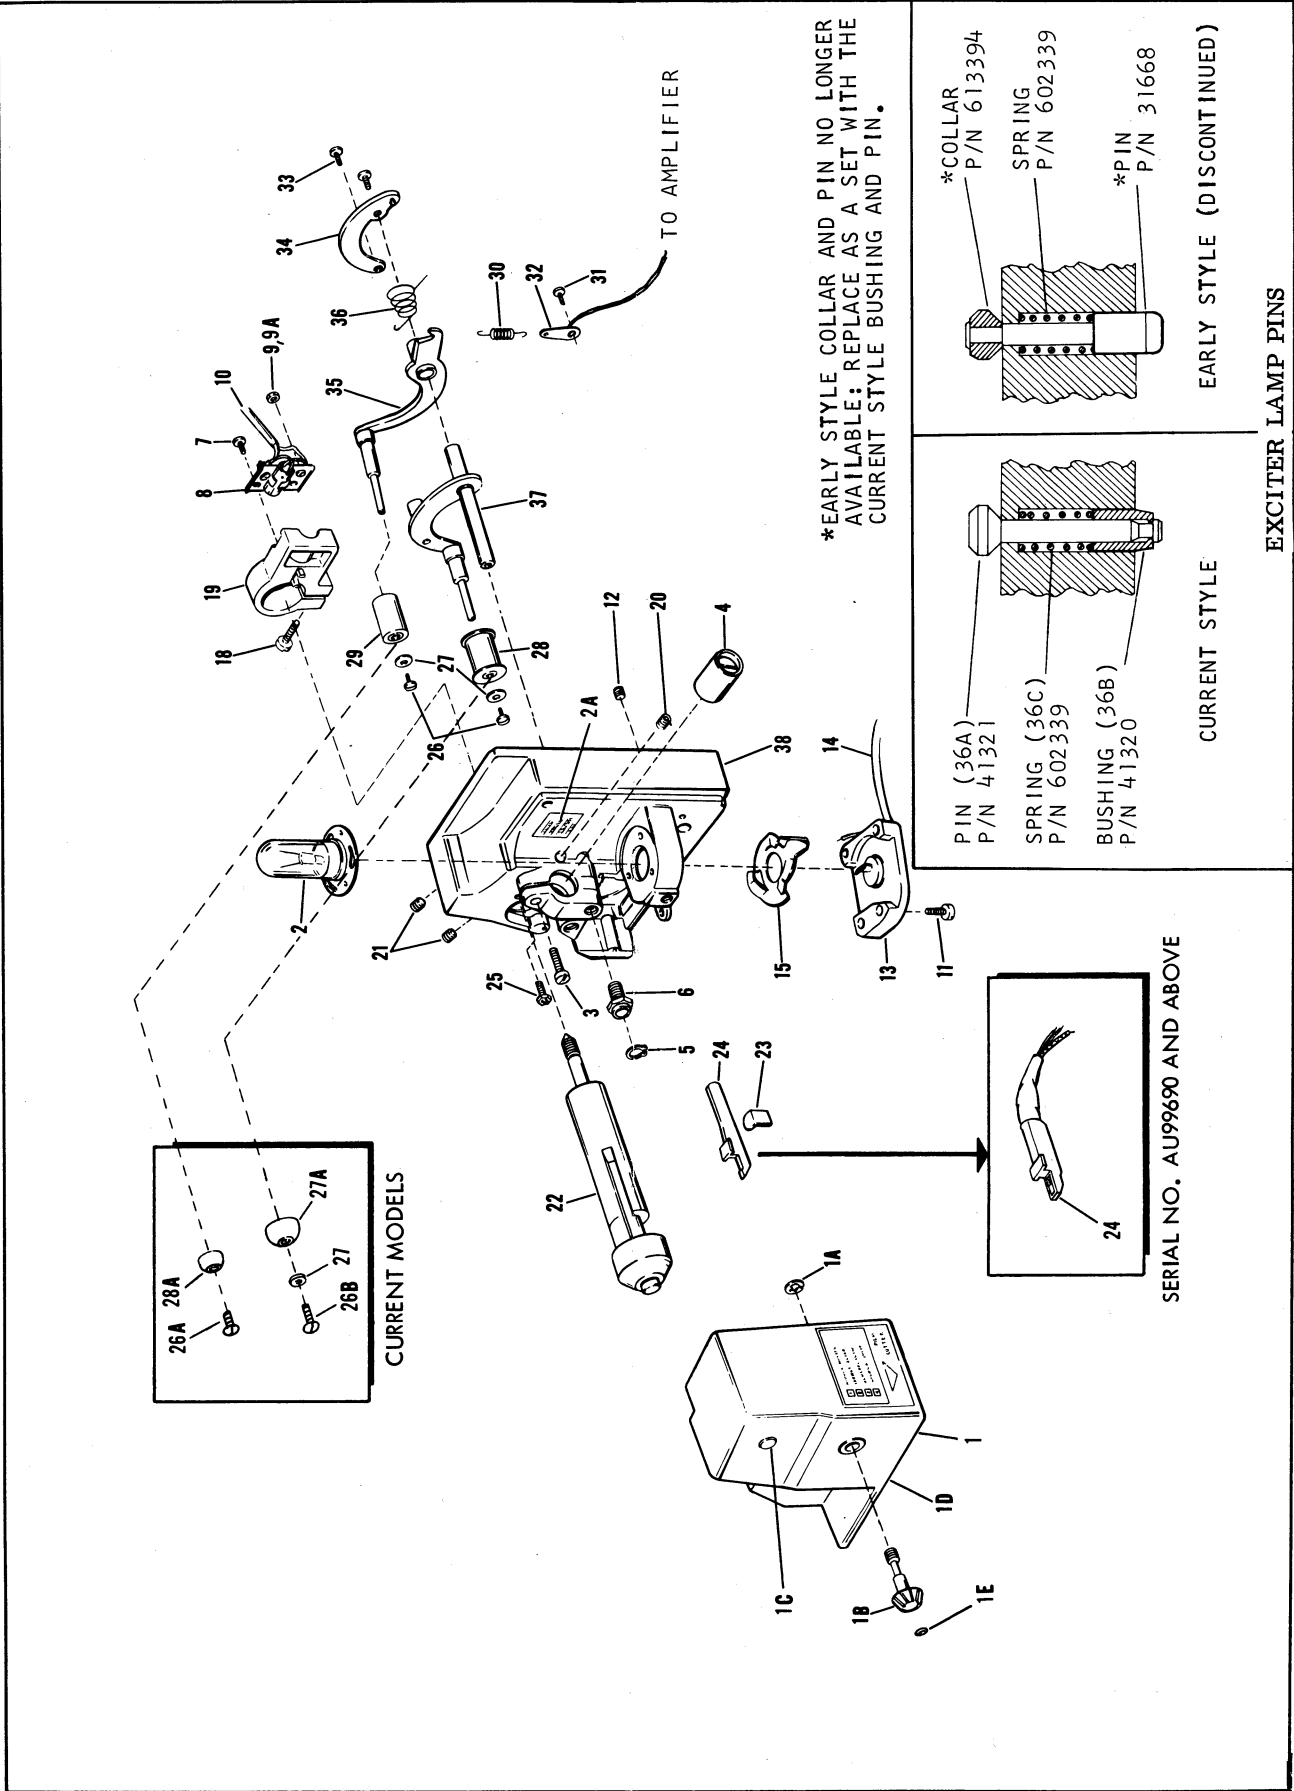

Figure 13. Sound Head Assembly
NOTE E: Early style exciter lamp pins (see inset, Figure 13) are no longer available. If replacement is necessary, the new style pin (item 13-38A) and bushing (item 13-38B) must be ordered and installed as a set. Spring #602339 (item 13-38C) is used in early and current designs.